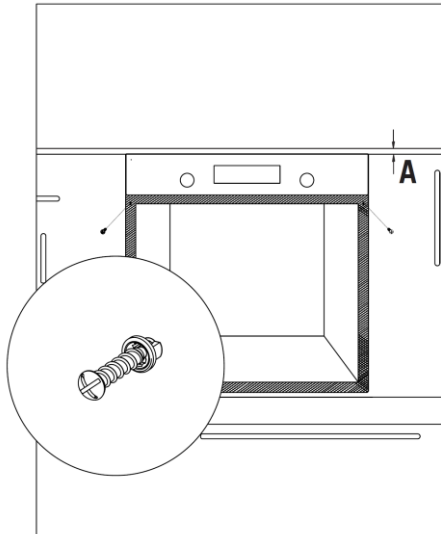

Fig. 5
After mounting the oven, the space between the top of the oven front and the bottom of the hob is indicated in Figure 5 by the letter “A”. This space is for refrigeration and should not be covered or covered.
- To fix the oven to the cabinet use the supplied screws. The screws must be positioned as indicated in Figure 5, passing them through the plastic supports fixed to the oven frame. Do not overtighten the screws as you may damage the plastic brackets.